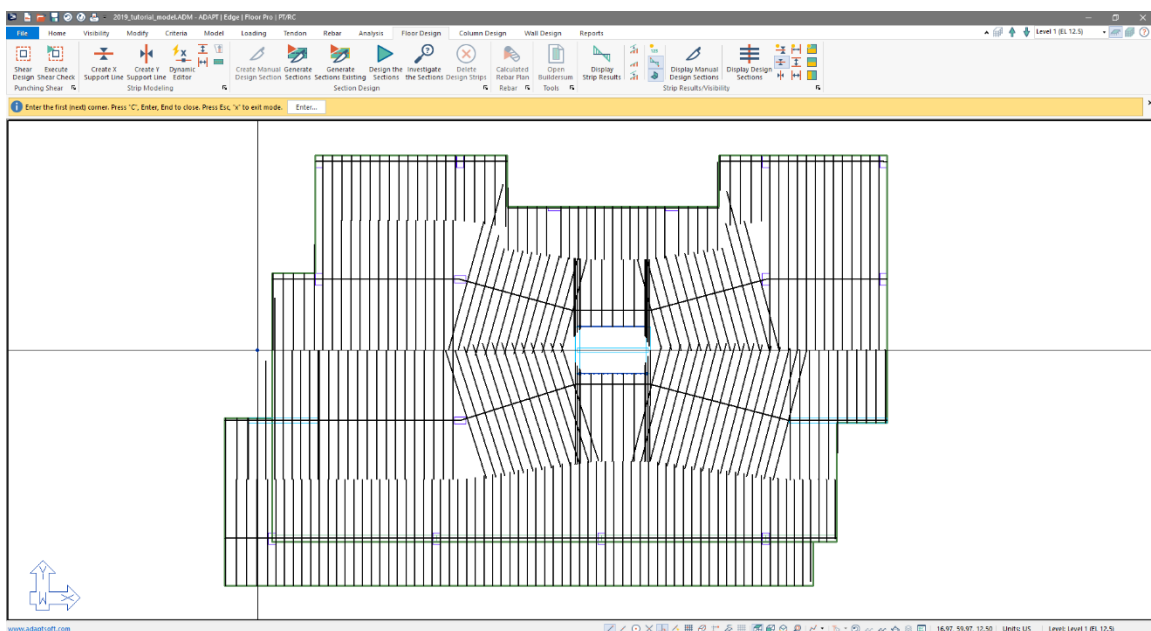

Figure 9-23
- Hover your mouse midway between support line 2 and support line 3 outside of the slab region as shown in **FIGURE 9-23**.